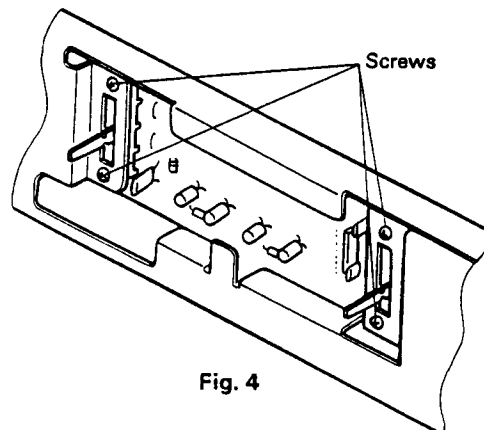

Fig. 4
2. Remove 4 screws from the LED Holder inside (Fig. 4).